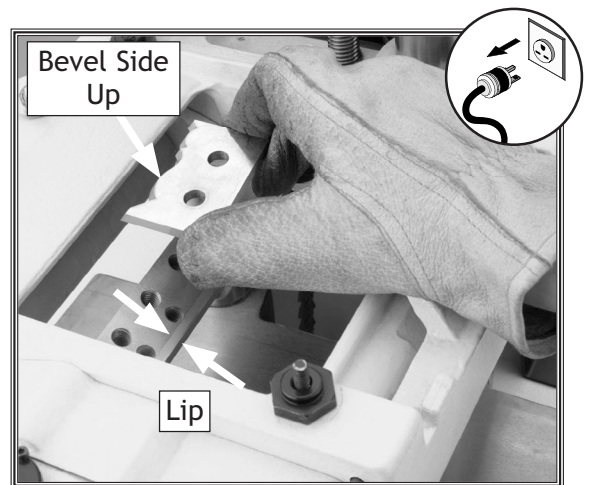
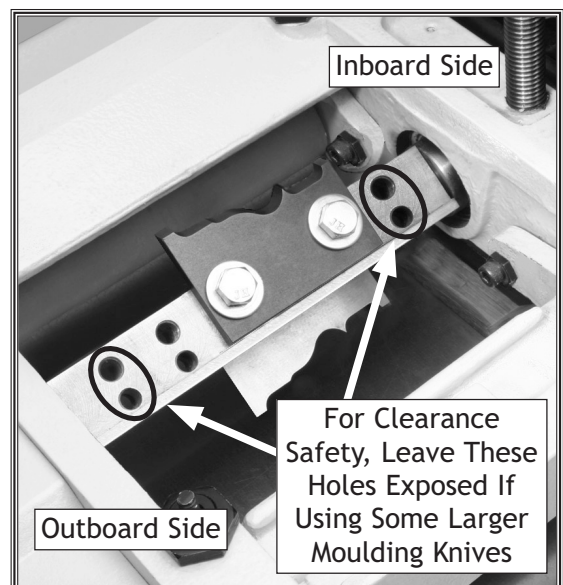

Figure 24. Moulding knife installation.
Figure 25. Knives positioned inboard.
4. Remove any dust, wood chips, and pitch from the cutterhead knife seat and lip (**Figure 24**).
5. Place the moulding knife against the cutterhead lip with the beveled side of the blade facing up (**Figure 24**), and in the inboard position (**Figure 25**) leaving only one set of holes (**Figure 25**). Should you for any reason need to position moulding knives on the outboard position of the cutterhead, you must leave one set of holes exposed if the at that end also.
6. Line up the holes and secure the knife to the cutterhead with the knife bolts and washers (**Figure 25**).